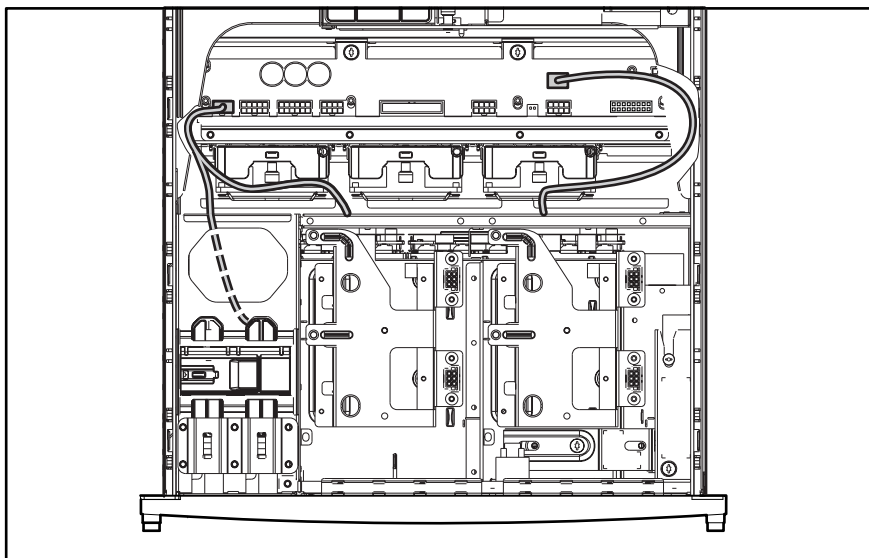

Figure 2-24. Power cables for SCSI hard drives and removable media devices
6. Power cables for SCSI hard drives and removable media devices. See Figure 2-24.